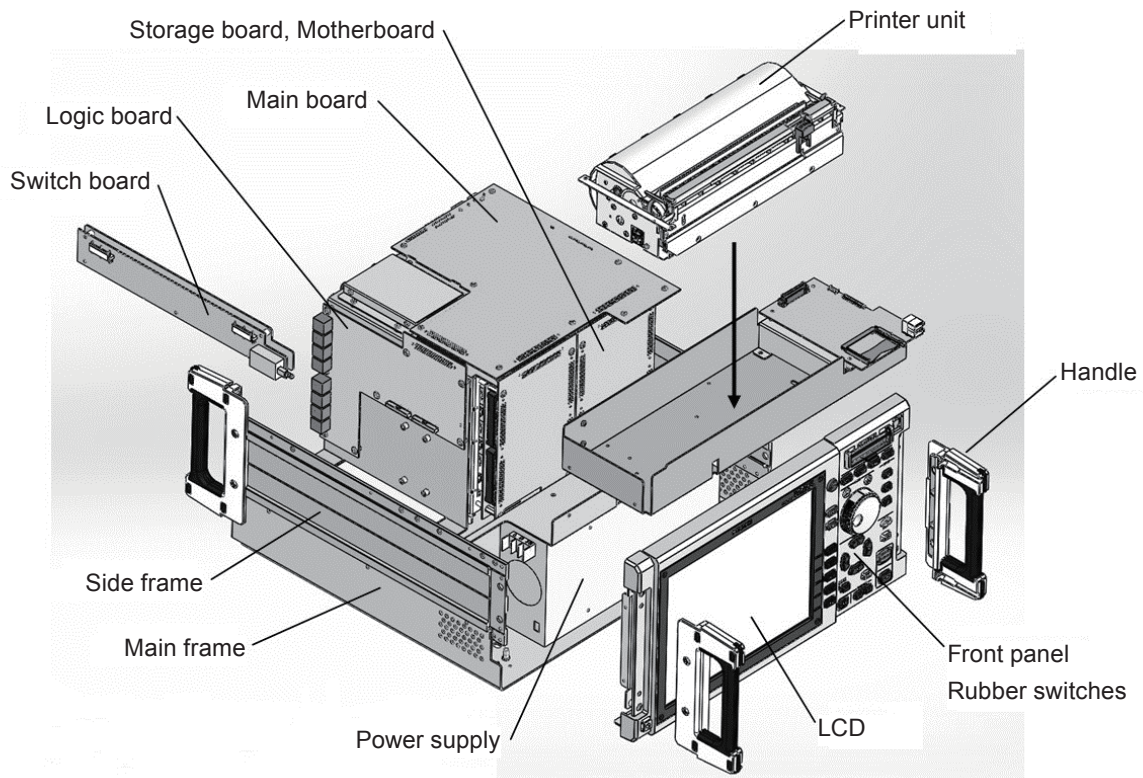
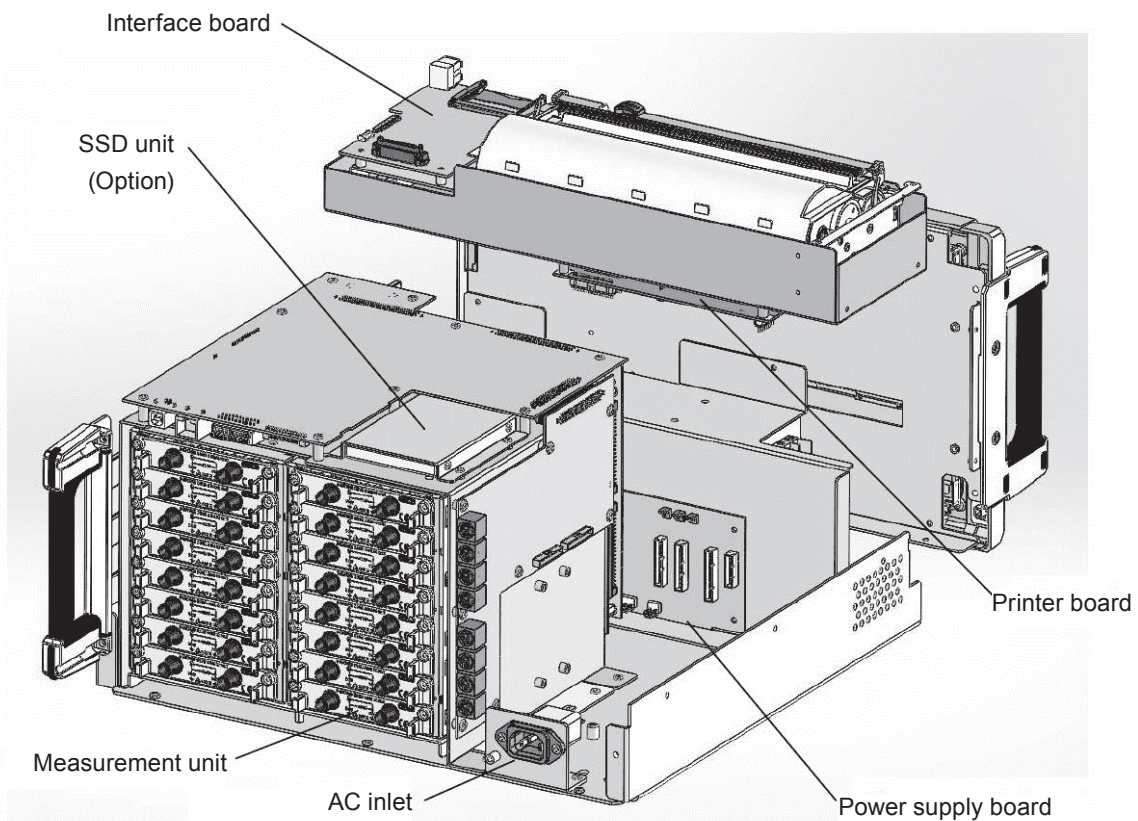

Fig. 2. Exploded view of MR8827 (front).
Fig. 3. Exploded view of MR8827 (rear).
2) *Chassis*: Fig. 2 and Fig. 3 provide exploded views of the MR8827's chassis.